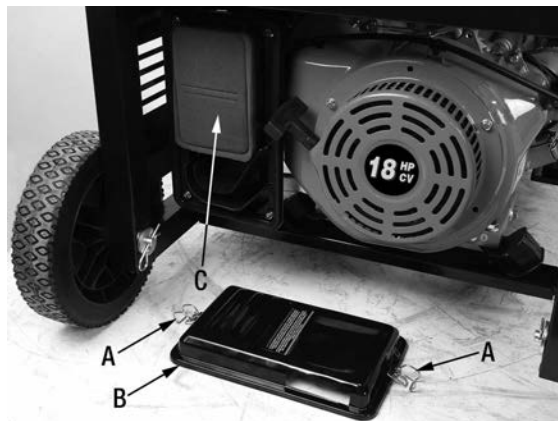

Figure 8
- 1) Snap the top and bottom clips (A) Fig.8 backwards and remove the air cleaner cover (B).
- 2) Remove the air cleaner filter (C), wash filter in kerosene, squeeze kerosene out, soak filter in engine oil and squeeze engine oil out.